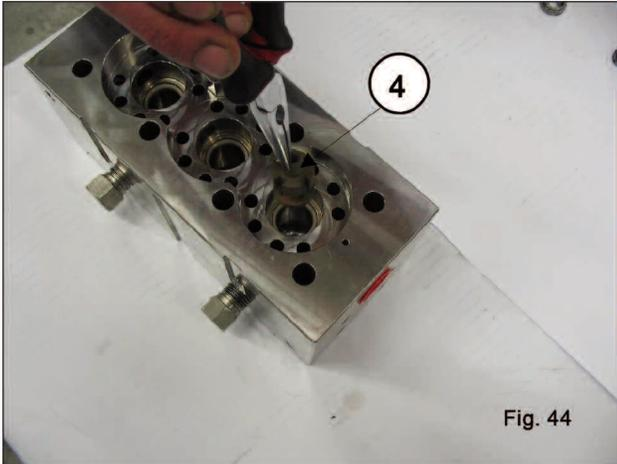
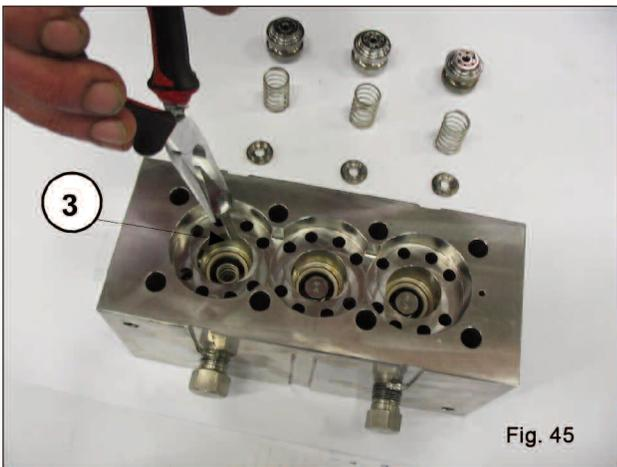

Fig. 44
Fig. 45
- Extract the outlet plates, 3, and their guides, 4, with the springs, as shown in fig 44 and fig. 45, check for wear and replace if necessary, and in any case within the times indicated in the "Preventive Maintenance" table of Chapter 11 in the Owner's Manual.